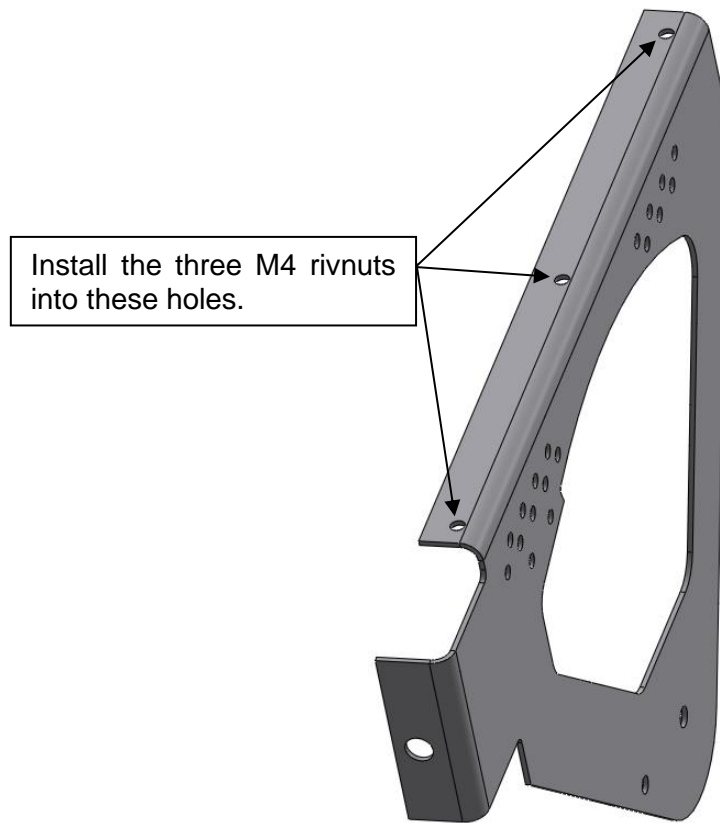

Figure 20
Step 1: Install M4 rivnuts onto the new throttle cable bracket (CF-BKT-038-R-X-0). Refer to Figure 20 for the location of where to install the rivnuts.